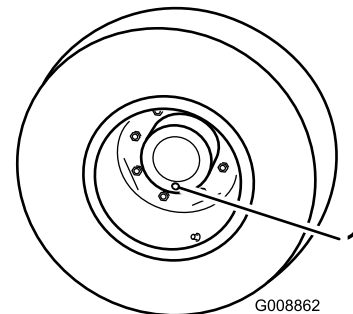

Figure 63
3. Rotate the wheel so that the check/drain plug (Figure 63) is at the lowest position.